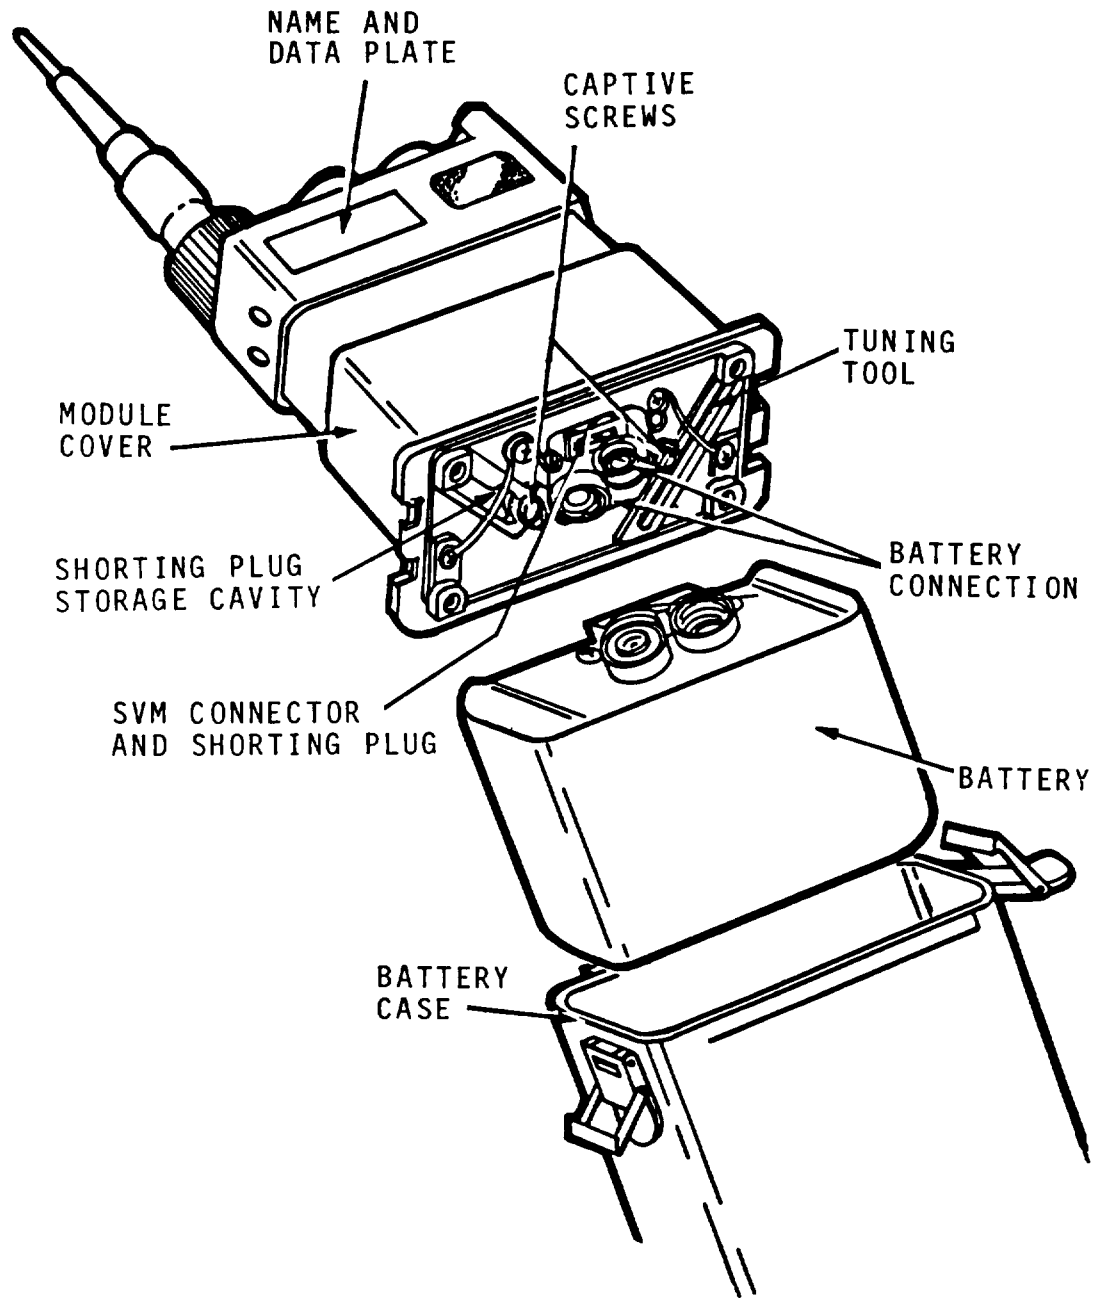

Figure 2-1. Radio Set Disassembly.
To disassemble radio set for battery replacement or for changing channel-frequency selections, perform applicable steps (refer to fig. 2-1) :
- b. Line up module cover as shown in figure 2-1.